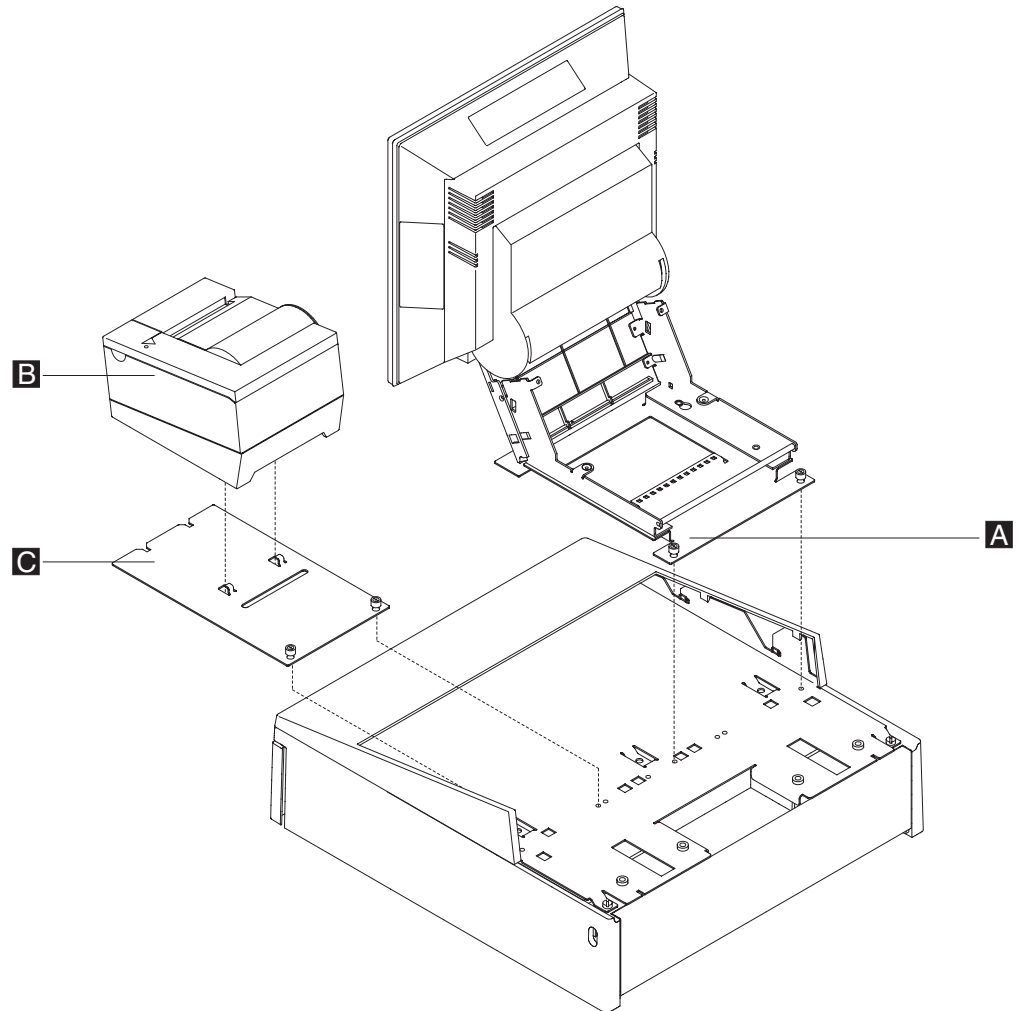

Figure 34. Detaching system from cash drawer integration tray
- d. Remove the thumbscrews (2) securing the SurePOS 500/600 adapter plate **A** to the integration tray, as shown in Figure 34. Then slide the system and adapter plate to the rear as a unit to free the plate from the mounting tabs. Remove the SurePOS 500/600.